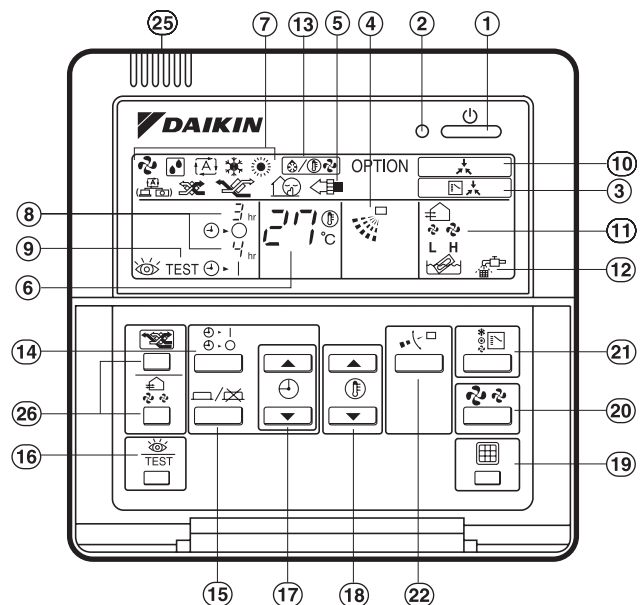

figure 2
## 2-4 Remote Control and COOL/HEAT Selector: Name and Function of each Switch and Display (Refer to figure 2 and 3)
- Figure 2 shows the remote control which is opened the cover.
- For FXS, FXM, FXL and FXN, the air flow direction adjust button (22) is not available and the display (4) shows “NOT AVAILABLE” when pressed.